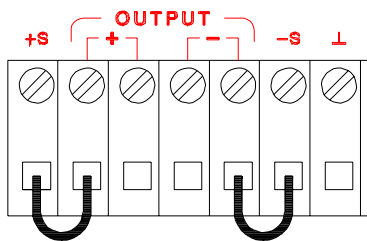

Figure 3-3. Rear local sensing connections
*For rear local voltage sensing connections, the front shorting bars must be removed first and connect the sense wires as shown in Figure 3-3.*